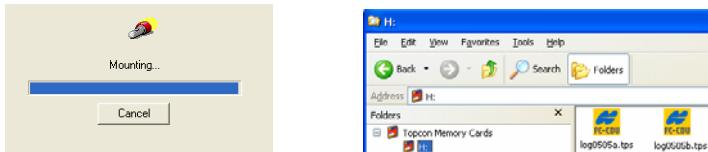

Figure 2-38. Checking Topcon Memory Card
2. Click the disk in the left or right panel of Windows Explorer. Topcon Link checks file system of this CD card and displays a list of *.tps files (Figure 2-38).